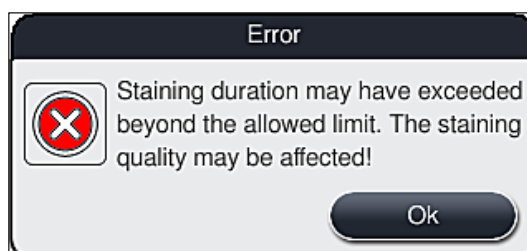

Fig. 107
1. After confirming this information message, the user is informed that the staining periods may have been exceeded, i.e. individual racks have already spent too much time in a reagent under certain circumstances or in a critical station, which can impede the staining quality. Confirm this information message (→ "Fig. 107") by pressing the **OK** button to resume.